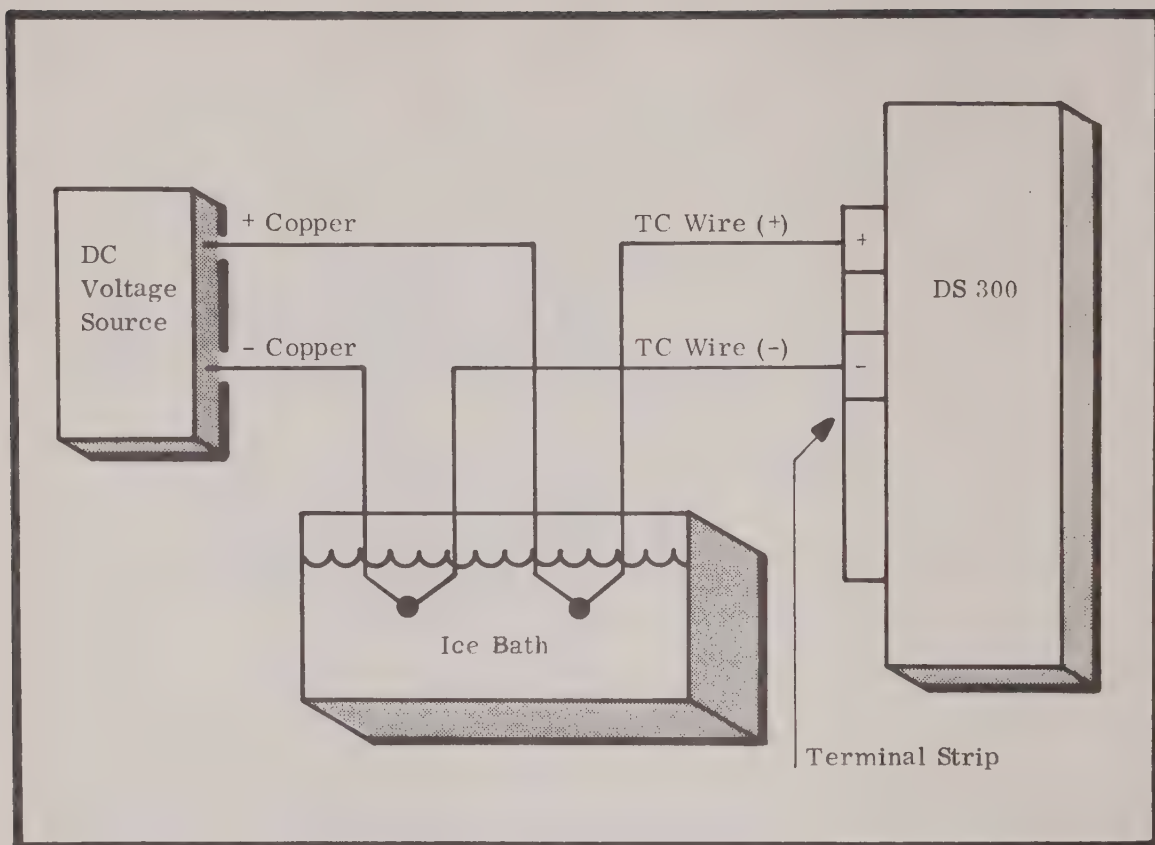

FIG. 4-1 TEST/CALIBRATION SET-UP (Internal Reference Junction)
- b. Hook the DC calibrator and ice bath to the DS300 as shown in Figure 4-1.
EXAMPLE: For Type K: Apply compensated calibrator (Figure 4-1) to + and - T/C inputs on the DS300-T3. Apply 0.000 mv and adjust the 32° Ref Pot for a readout of +32° F. Apply 53.0100 mv to the DS300-T3 T/C input. Adjust the +Ref Pot for a readout of 2400° F.